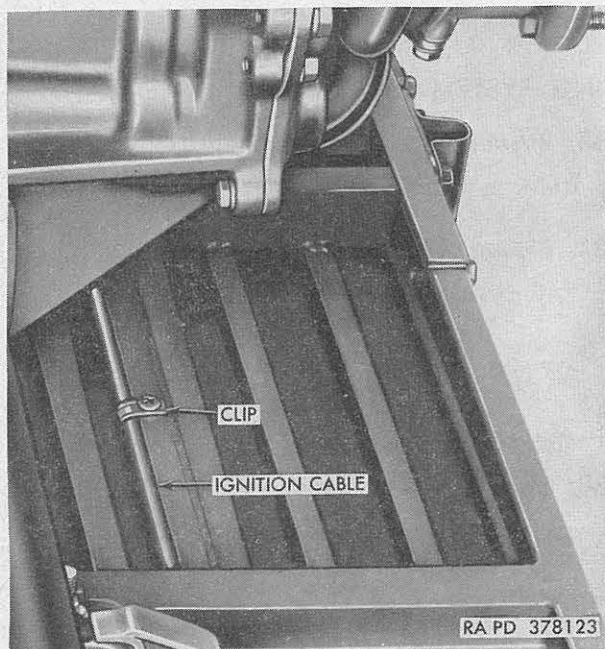

Figure 52. Position of ignition switch to magneto cable beneath platform.
*b. Ignition Switch to Magneto Cable Installation.* Position cable (fig. 52) on under side of platform in sixth groove from left side. Push connector on rear end of cable into socket on